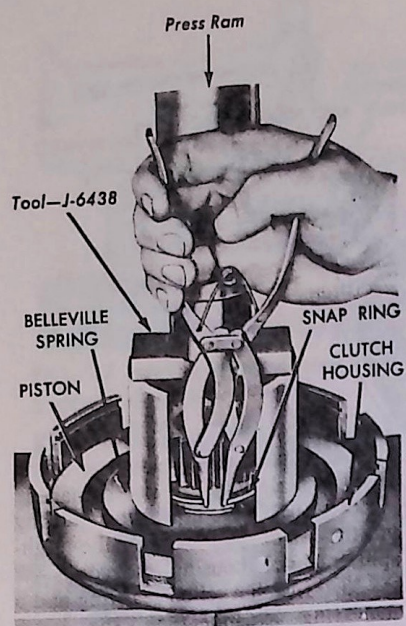

FIG. 52 High-Splitter Piston Belleville Spring Snap Ring Removal or Installation
8. Place the high-splitter clutch housing in a press, support the rear of the housing, compress the piston Belleville return spring, then remove the snap ring (Fig. 52). Remove the housing from the press. When releasing the Belleville spring pressure, be sure that the spring does not catch in the snap ring groove.
25. Place the piston and housing assembly in a press with the piston up, then install the Belleville piston return spring on the piston with the convex side up. Compress the spring carefully and only far enough to install the snap ring, using the tool shown in Fig. 52. Install the snap ring and release the pressure on the spring. Remove the assembly from the press.